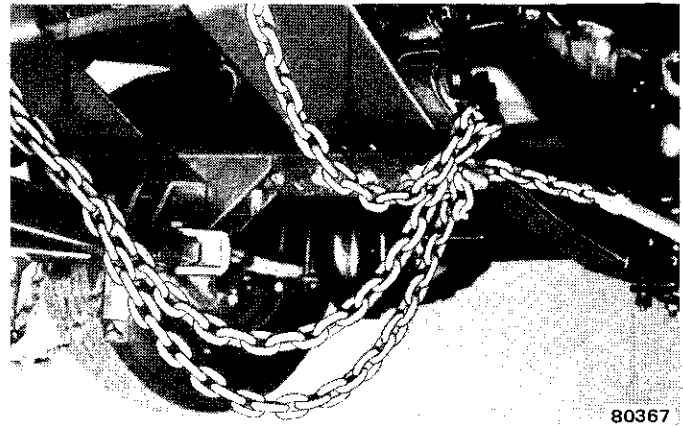

Fig. A-14 Front Towing—Cherokee and Wagoneer Models
**Front (Refer to Figure A-14)**